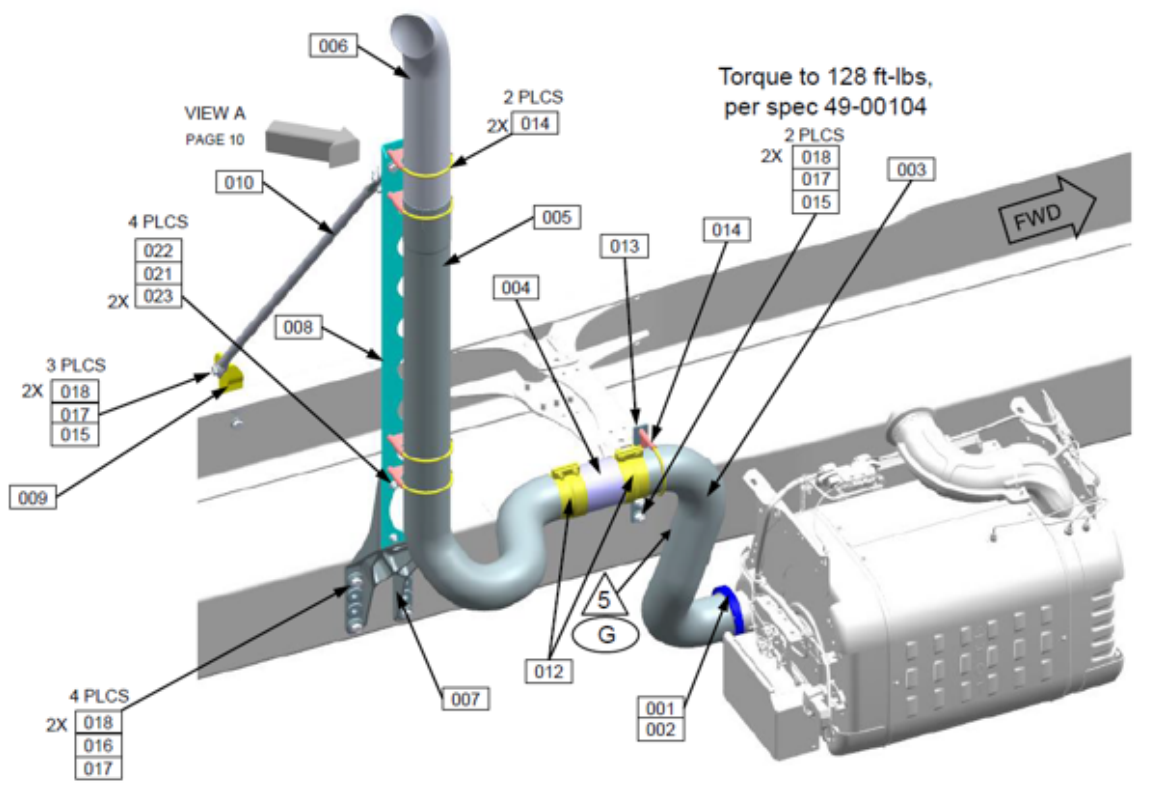
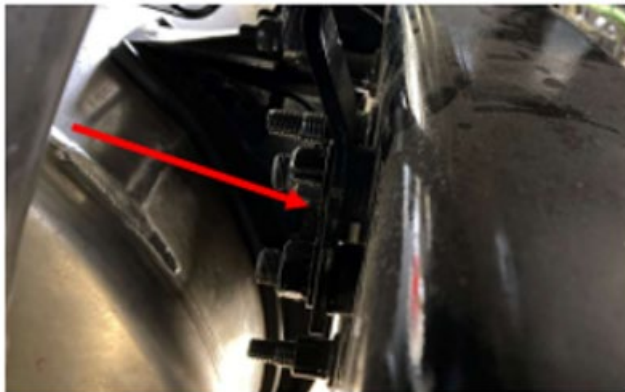

Figure 1: Installation Diagram Vertical Exhaust
Figure 3. Exhaust Bracket reinstalled and Exhaust Clamp loose.
- Referencing **Fig. 1** (from installation diagram D04-31766-007), remove the lower clamps numbered 14 and 12.
- 007-INSTL-EXH,1F3,SLPR,NGC,AFT OUT,1 BRKT (E)
- Remove the exhaust pipe bracket, labeled as item 13 in **Fig. 1** (from installation diagram D04-31766-007).
- Install the clamp, item 14 in **Fig. 1**, removed in step 2. Tighten only hand tight as shown in **Fig. 3**.
17. Install the flex pipe and clamps (item 12 in **Fig. 1**); tighten the clamps 38 to 45 lbf•ft (45 to 55 N•m).